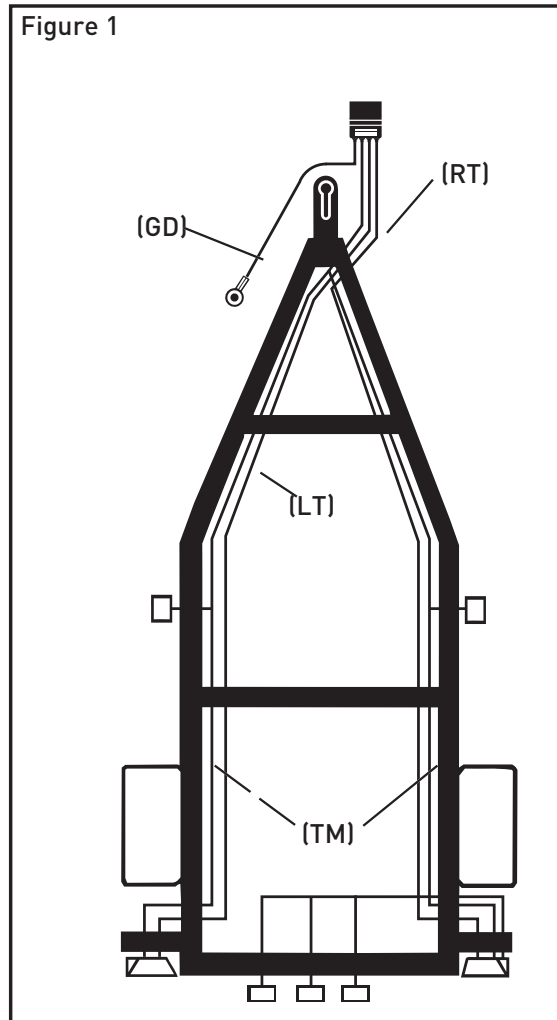

Figure 1
2. Attach wires of the 20 foot connector to the corresponding function wires as determined in Figure 1. Leave approximately 18 inches of slack between the trailer and the tow vehicle to allow the trailer to turn.